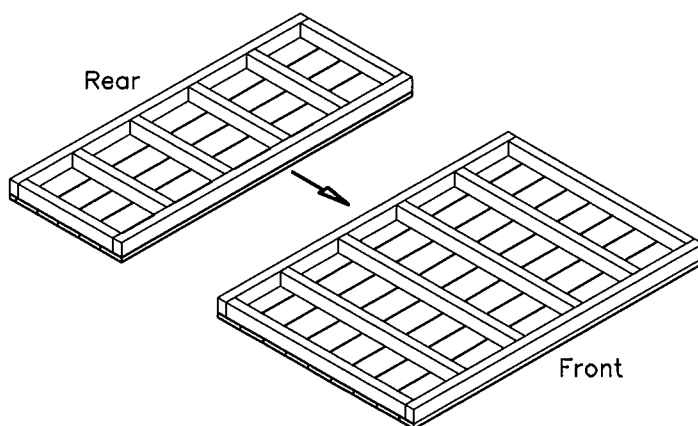

FIGURE S2
1. Unpack the floor sections and place them on level ground with the decking facing down as shown in Figure S2.
2. Push the floor panels together as shown in Figure S2. The smaller floor panel should be to the back of the building.